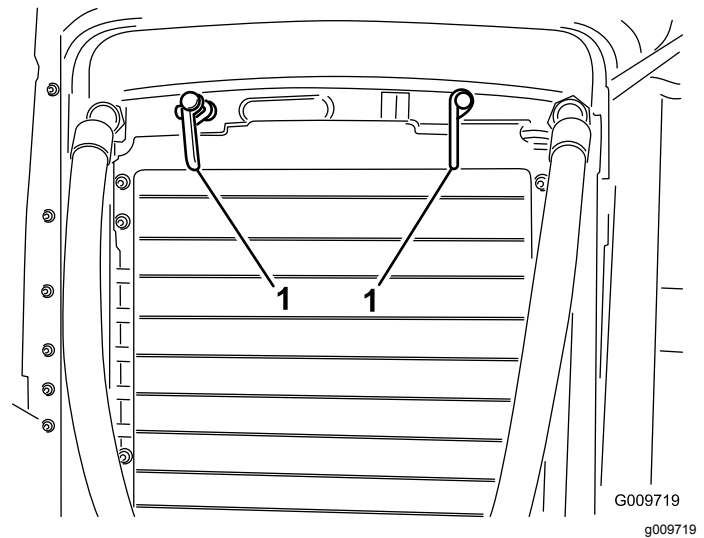

Figure 56
2. Rotate the latches (Figure 56) securing the oil cooler to the frame.